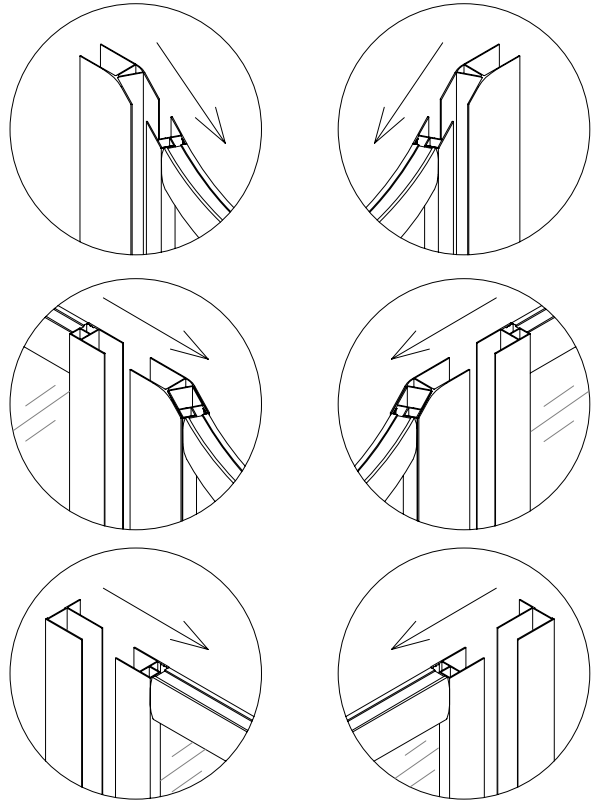

Fig 6
4. Push the Angle connection profile (3) all way over the Glass profile; than push the Side stationary glass (2) into the Angle connection profile (fig 6).
5. Push the Wall profile (1) all the way over the Glass profile (2). Be sure to keep a tong with predrilled holes inside of shower (fig 6).